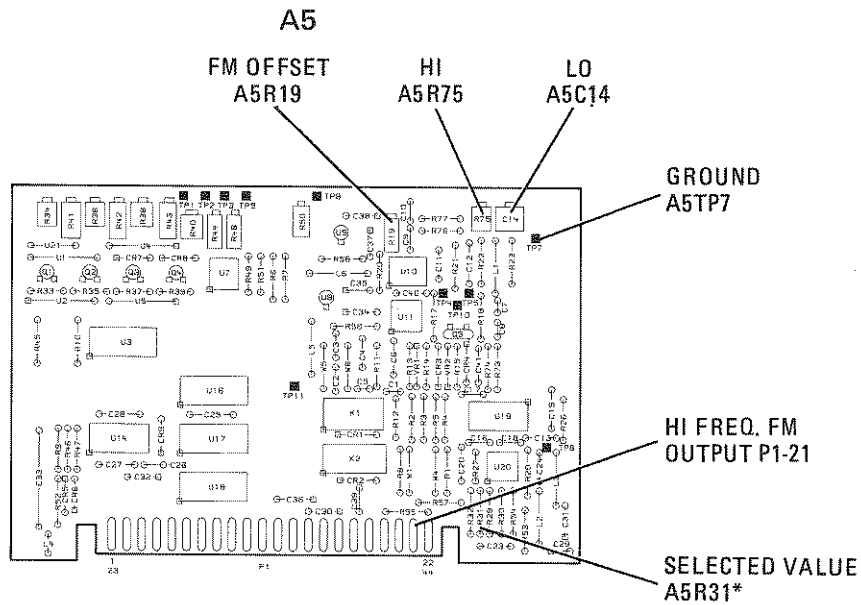

Figure 5-35. Location of A5 FM Driver Adjustments
3. Connect DVM between A5 board connector pin 21 and A5TP7 (ground). (See Figure 5-35.) Adjust A5R19 "FM OFFSET" control for zero $V_{dc} \pm 1$ mVdc.
8. Manually sweep function generator frequency from DC to 100 kHz. Select resistor A5R31 (Figure 5-35) so amplitude at 100 Hz and at 100 kHz are the same ±0.2 cm on CRT.
9. Manually sweep function generator frequency from DC to 10 MHz. Adjust A5C14 "LO" and A5R75 "HI" controls several times (Figure 5-35) to obtain the most constant overall response from DC to 10 MHz.